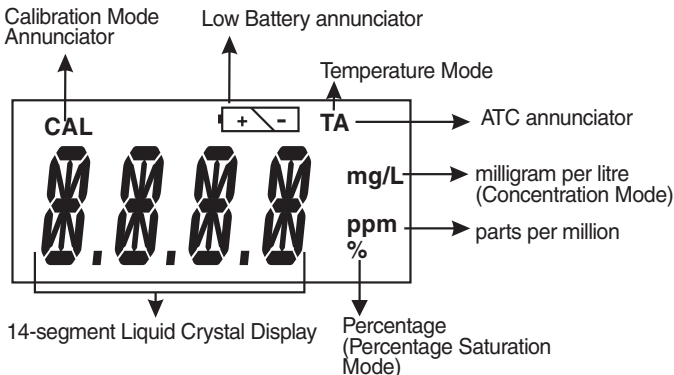

Figure 1, Active LCD display for DO6
The meter has a large custom LCD that consists of 14-segment 4 digit display and operation annunciators for Percentage Saturation measurement mode (%), Concentration measurement mode (mg/L or ppm) and Temperature measurement mode in degrees Celsius (T). Other annunciators include “A” (when the ATC function is activated), “CAL” (when meter is in calibration mode) and battery diagram for low battery condition. See Figure 1.